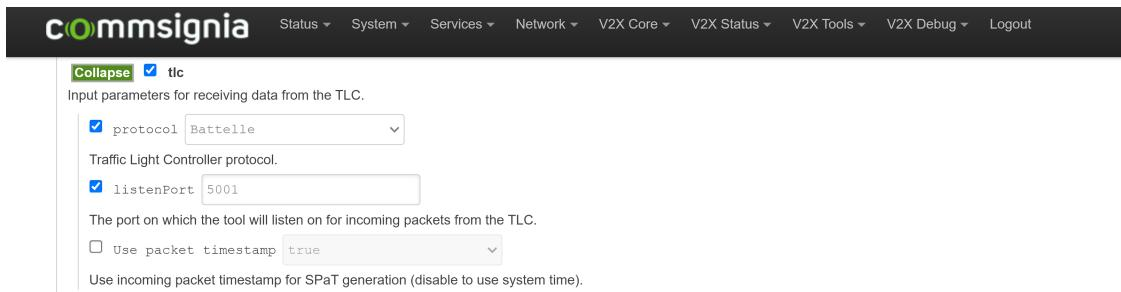

Figure 34. Battelle protocol settings
- For the Battelle format, check the box near `protocol` and select `Battelle`, as shown in Figure 34.